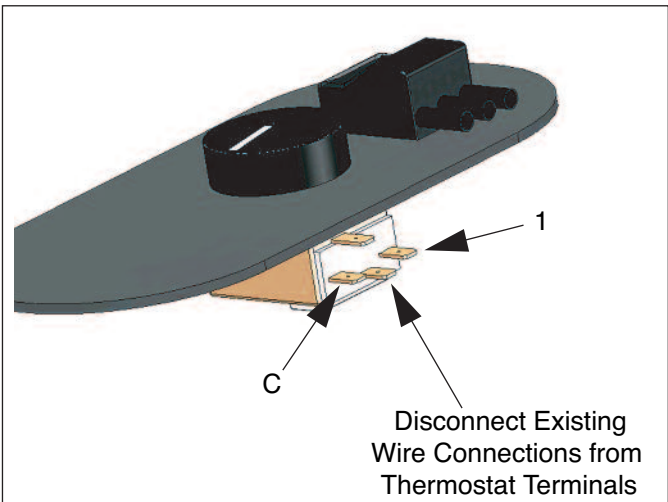

Fig. 2: Thermostat Cover Plate Assembly
3. Disconnect the wire terminal connectors from C and 1 on the thermostat. There is no need to mark the wires prior to disconnecting, as polarity of the connections is not of importance. See Figure 2.